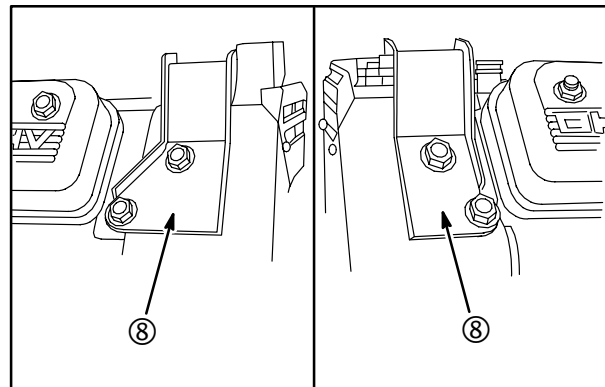

Fig. 4
9. If necessary remove 4 screws and 2 flywheel side fuel tank base supports (8), **Fig. 4.**
1. Install 2 flywheel side fuel tank base supports (8), **Fig. 4.** Torque screws to **140 in. lbs. (16 Nm).**